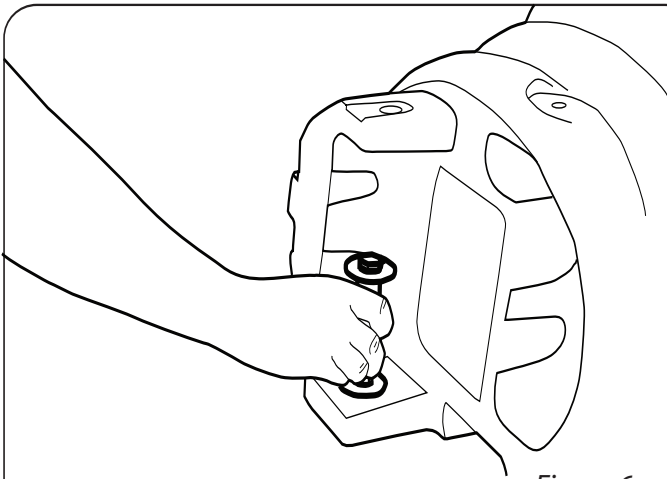

Figure 6
STEP 1 Arrange the caterpillar into the chosen configuration and location ensuring the ground is flat and all fixing points avoid existing grids etc. Carefully move away all parts except the 'Head'. Mark the ground through the middle fixing point (see figure 6) on the 'Head' and move away. This point can now be drilled to a depth of 85mm.